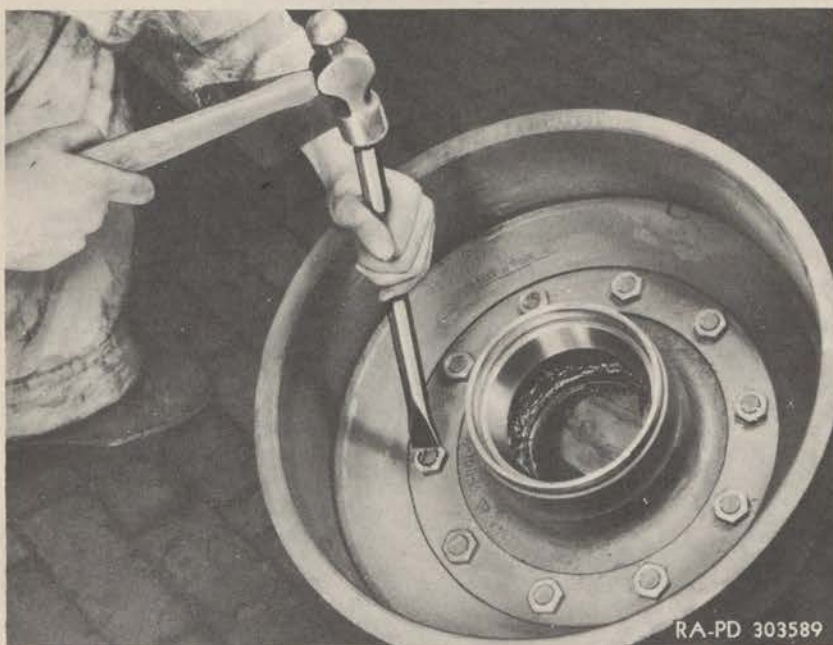

Figure 145—Locking Drum Stud Nuts with Chisel
(1) **INSTALL DRUM ASSEMBLY ON HUB.** Install the drum assembly into position over the stud nuts. Tighten these securely after the nuts are tightened. It will be necessary to use a center punch or a chisel to bend the metal in the stud nuts to prevent the nut from shaking loose (fig. 145).